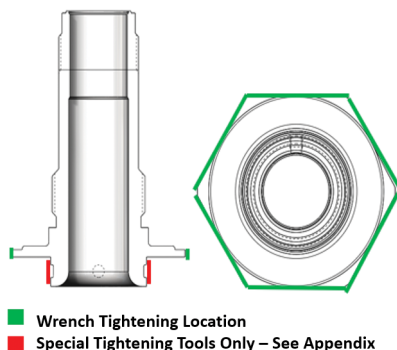

Figure 48: IS Nozzle Tightening Locations
- a. Tighten with wrench/socket to a maximum torque not to exceed that value listed in Table 10 at the wrench tightening location in Figure 48.
- b. Tighten to a maximum torque not to exceed that value listed in Table 10 with the use of the 2900 IS Torqueing Tool Insert per the drawing in Section XXIII. at the Special Tightening Tools Only location in Figure 48.